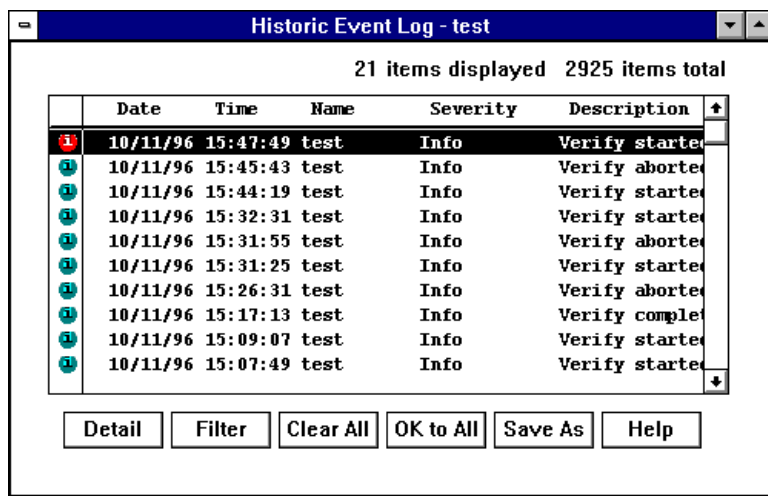

Figure 2-7. Server Historic Event Log Window
- 1 Click the button on the toolbar. The Historic Event Log window for the currently selected server appears, as shown in Figure 2-7.